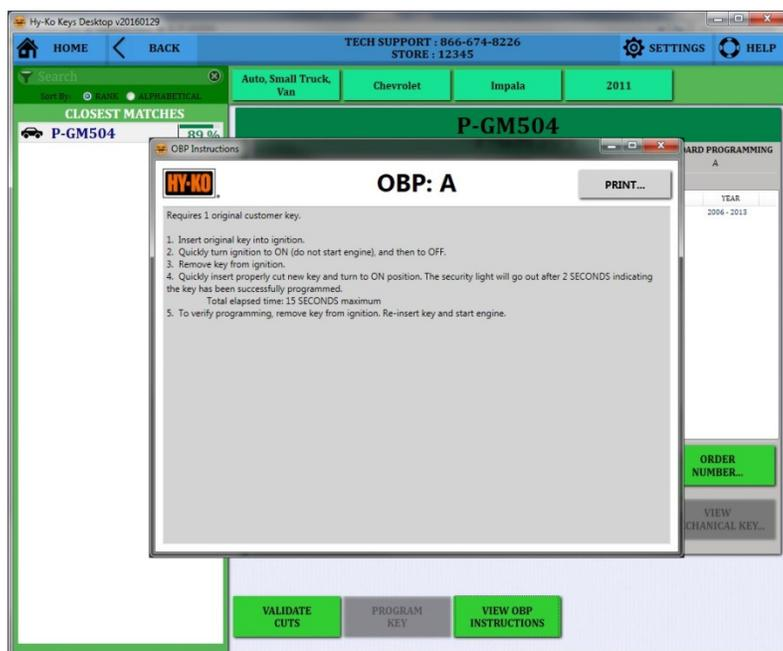

fig. 107
- A pop-up window will appear showing the on-board programming (OBP) instructions for the P-GM504 (see fig. 107). You can either write them down or click the **‘PRINT’** button in the top, right corner of the pop-up window to print the instructions.